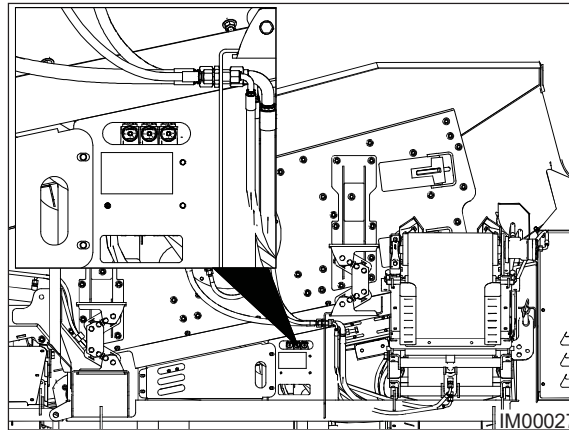

Fig: 7.4 - Control Levers
3. Proceed to the control levers located on the left-hand side of the machine (Fig: 7.4).